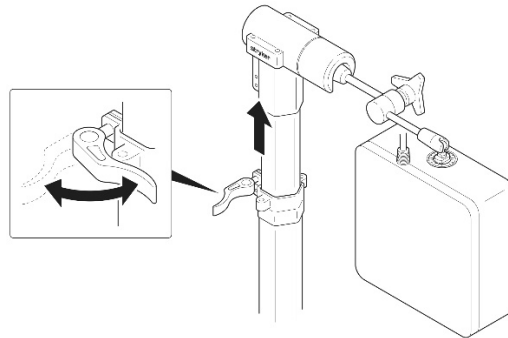

Figure 5: Stand Height Adjustment
4. If additional height is needed to accommodate patient positioning the stand height can be adjusted by opening the quick release lever on the collar, pulling the mounting arm to the desired height, and closing the quick release lever to lock the stand in position (Fig. 5).